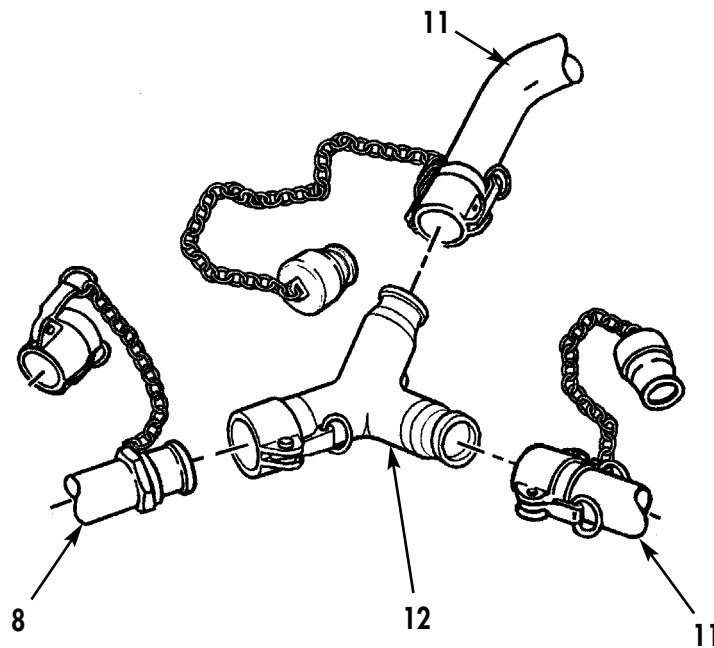

Figure 4. Disconnecting from Y-Fitting.
9. Remove 2 in. (51 mm) DIA x 10 ft (3 m) long discharge hose assemblies (Figure 4, Item 8) from Y-fitting (Figure 4, Item 12). Drain water from hose and install cap.
10. Disconnect two 2 in. (51 mm) DIA x 25 ft (7.6 m) long discharge hose assemblies (Figure 4, Item 11) from Y-fitting (Figure 4, Item 12).